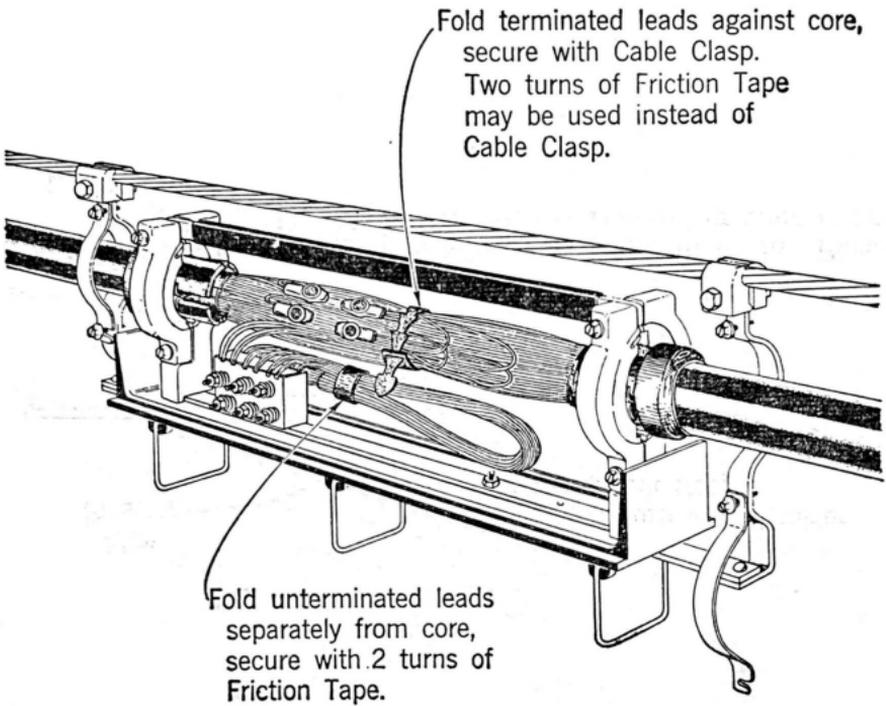

Fig. 4
2.03 After all conductor joints are completed, dress the pairs against the core of the cable and secure as shown in Fig. 4. **Keep the terminal looking neat and orderly.**